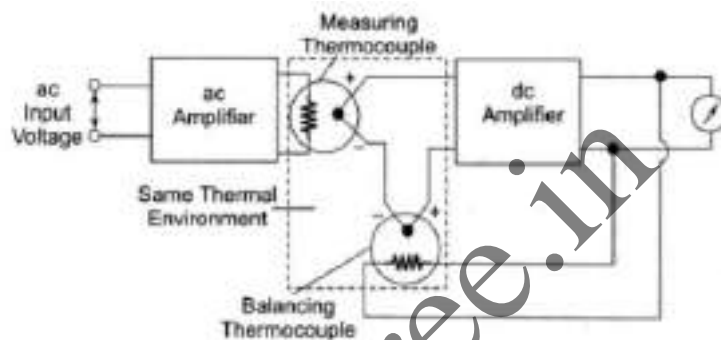

Fig.3.13 True RMS voltmeter (Block diagram)
- These thermocouples form part of a bridge in the circuit of a dc amplifier, as shown in block diagram in Fig.3.13.